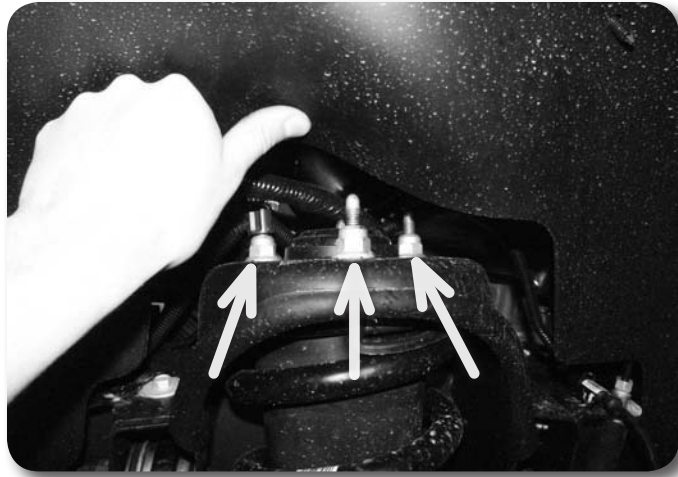

Figure 10
17. Remove the three upper strut mounting nuts **Figure 10** and remove the strut from the vehicle. **DO NOT** remove the center strut rod nut, it is under extreme pressure. Save nuts.